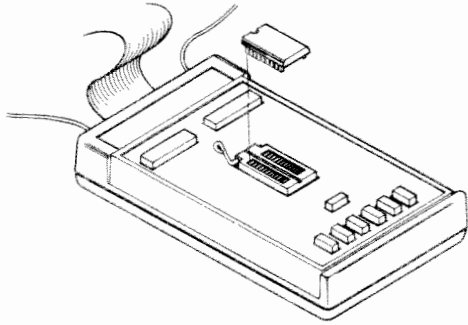

Fig. 4. Inserting The Reference IC.
1. With the lock down lever in the up position, insert a known good IC (identical to the one under test) into the zero insertion force socket on the IC Tester. Make sure that pin 1 of the IC is located at the upper left hand corner of the IC socket on the IC tester as shown in Fig. 4. Do not substitute a similar IC from a different family (e.g., do not substitute a 7402 for a 74LS02 or vice versa). Doing so could cause erroneous test results.
To attach the IC clip to the test cable, position the test cable so that the red band is on the side of the IC clip that is marked "PIN # 1" (as shown in Fig. 4). Line up the holes in the two black cable connectors with the pins protruding from the top of the IC clip and slide the black cable connectors onto the protruding pins.